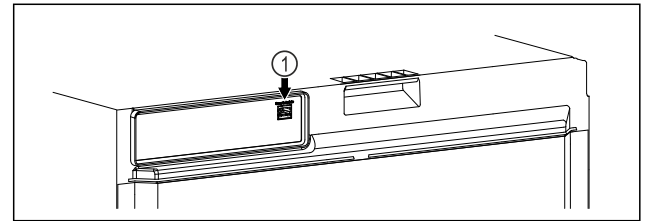

Fig. 103
- SmartModule Fig. 103 (1) has been inserted.